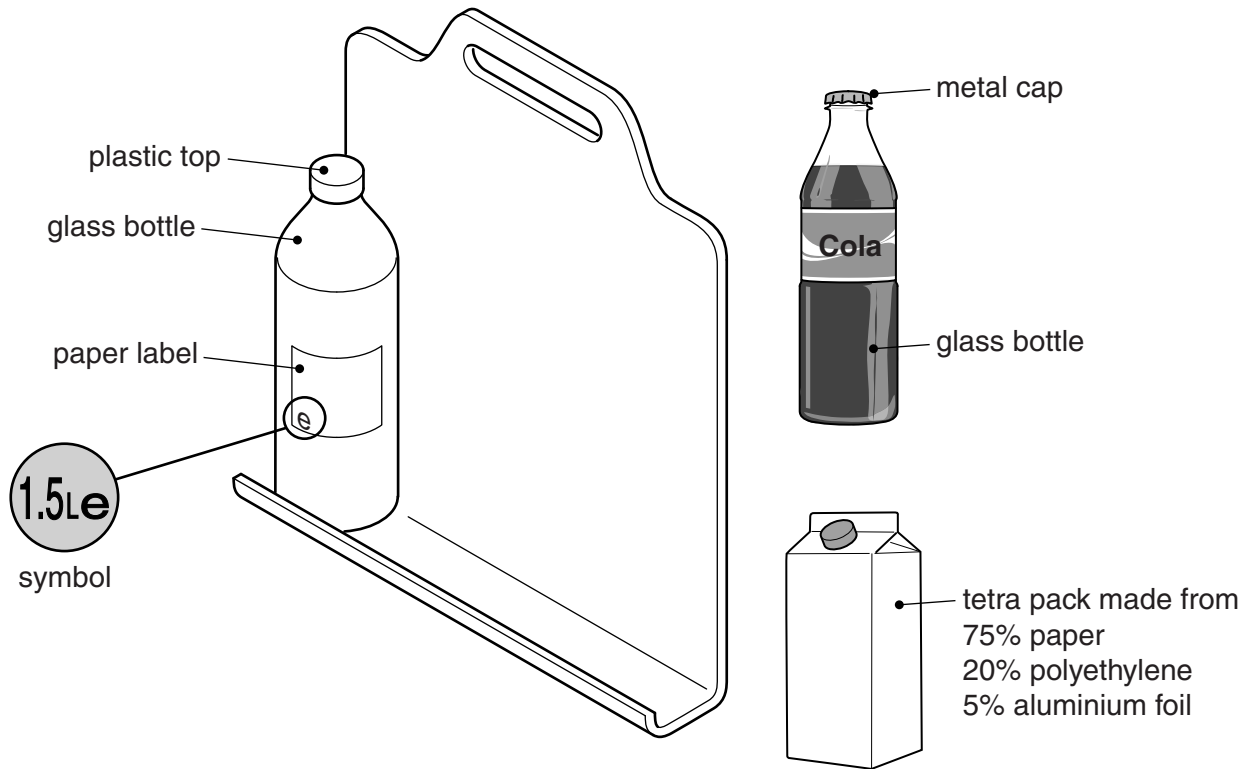

Fig. 4
- 4 Fig. 4 shows a holder to carry drink containers, a range of drink containers and a symbol that frequently appears on drink containers.
- (d) Each of the drink containers shown in Fig. 4 is made from more than one material. Discuss the problems associated with recycling products that are made from more than one material.